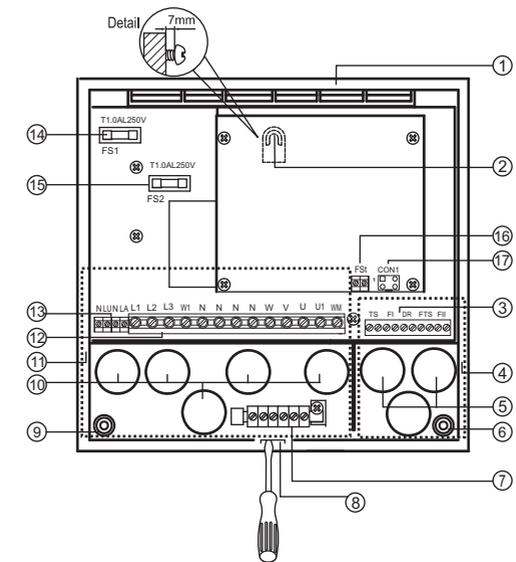

Fig. 6 Installing the power unit
1. Using a slotted screwdriver, carefully press open (Fig. 6/Item 8) and remove the cover.
2. Tighten the screw provided at the intended installation position for the power unit, ensuring a distance of 7 mm between the cabin wall and head of the screw (see Fig. 6 for details).
3. Hang the housing on the installed screw (see Fig. 6/Item 2).
4. Once you are finished connecting the electrics (see Section 5.1), tighten the two screws (Fig. 6/Item 6 and Item 9).
1. Guide the lines for the stove sensor (F1) and the bench sensor (FTS2) through the holes (Fig. 6/Item 5) into the low-voltage section (Fig. 6/Item 4) and connect them to the terminal (Fig. 6/Item 3) in accordance with the circuit diagram (Fig. 9).
2. Guide the lines for the (optional) door contact switch through the holes (Fig. 6/Item 5) into the low-voltage section (Fig. 6/Item 4) and connect them to the terminal (Fig. 6/Item 3) in accordance with (Fig. 9). Note: The door contact switch is not included in the scope of supply. A jumper is installed on terminal "DR" at the factory.
3. Guide the data lines for the control unit through the holes (Fig. 6/Item 5) into the low-voltage section (Fig. 6/Item 4) and connect them to the terminal (Fig. 6/Item 17) in accordance with (Fig. 9).
4. Guide the lines for the fan and light through the holes (Fig. 6/Item 10) into the 230/400 V voltage section (Fig. 6 /Item 11) and connect them to the terminal (Fig. 6/Item 13) in accordance with (Fig. 9).
5. Guide the lines for connecting the sauna stove (and if applicable: the evaporator) through the holes (Fig. 6/Item 10) into the 230/400 V voltage section (Fig. 6/Item 11) and connect them to the terminal (Fig. 6/Item 12) in accordance with (Fig. 9).
6. Connect the earthing cable to the terminal (Fig. 6/Item 7).
The sc-1-black sauna control can be used to control up to three circuits with a maximum power of 3.5 kW. Optionally, the control can be increased to 18 kW-30 kW with a power extension (connection: terminal W1, Fig. 6/Item 12).
If using a door contact switch, install it in accordance with the instructions provided by the manufacturer. The door contact switch is connected to the terminal DR (see Fig. 6/Item 3). A jumper is installed on terminal "DR" at the factory.
If using a switch to trigger remote start, connect it to terminal "FSt" (see Fig. 6/Item 16).